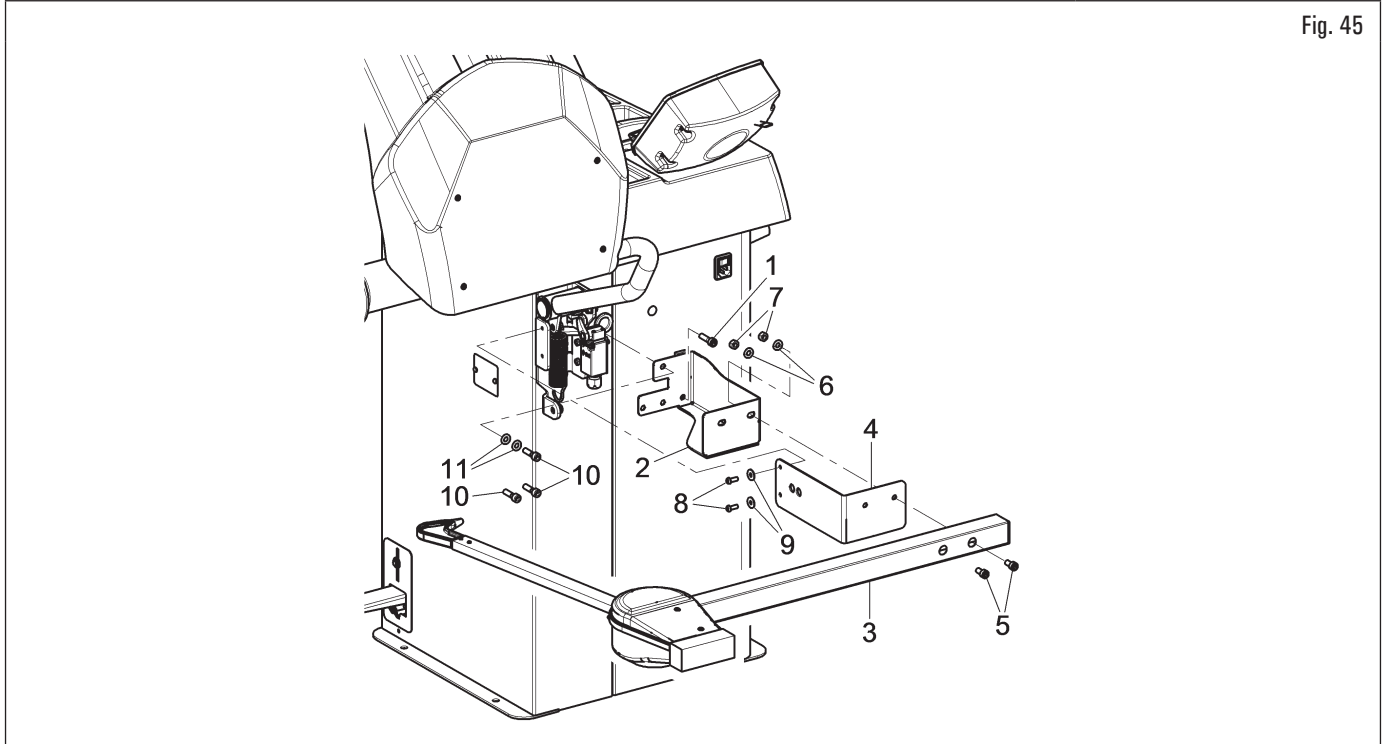
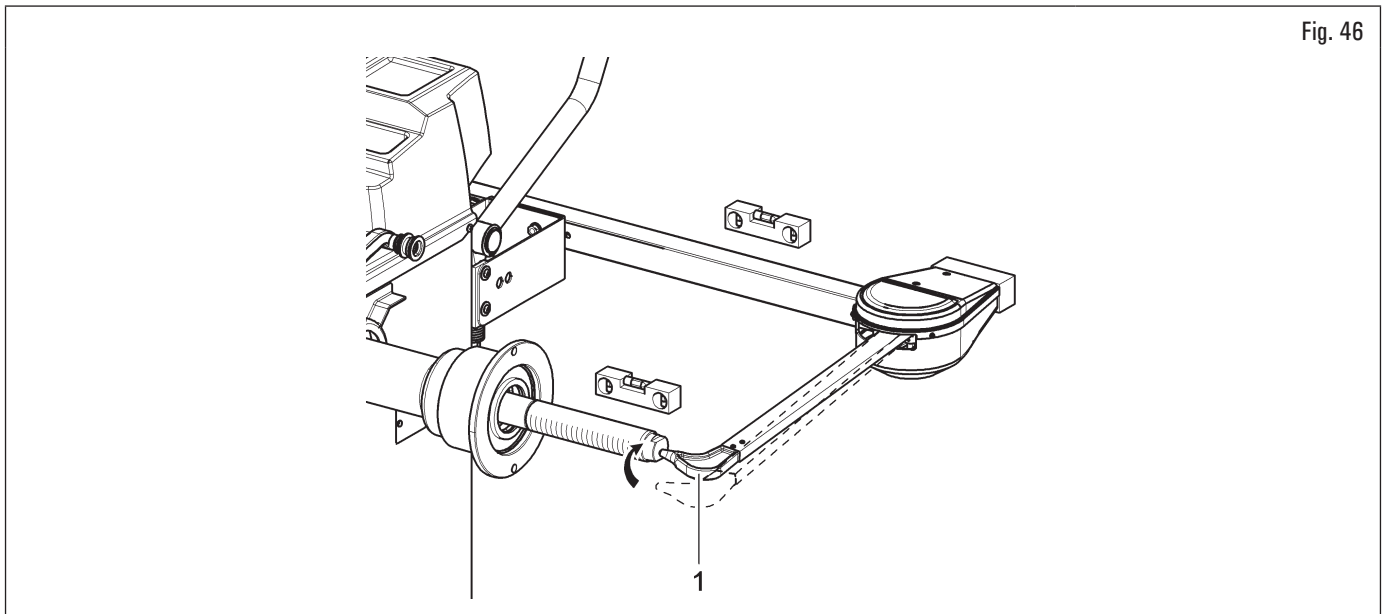
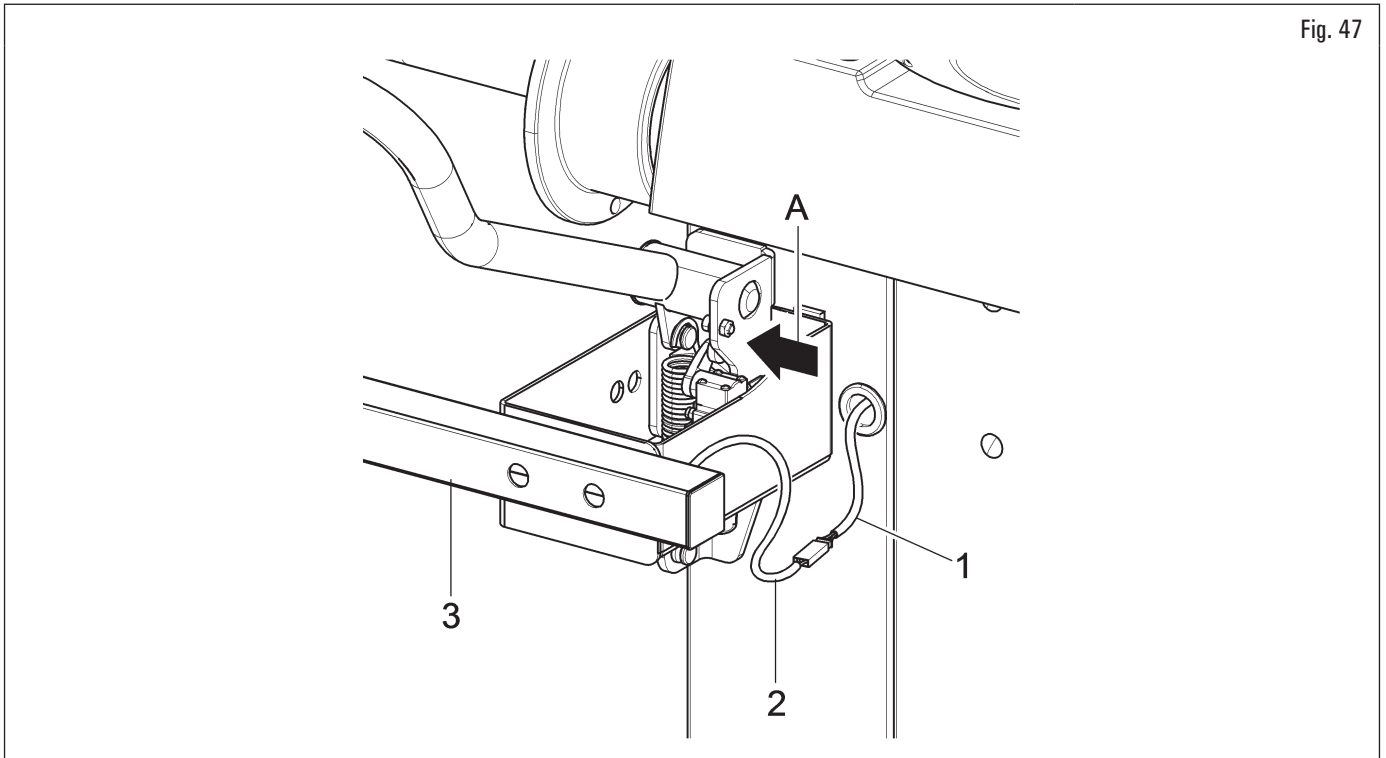

Fig. 45
Fig. 46
Fig. 47
1. Remove the bolts (Fig. 45 ref. 10) and the washers (Fig. 45 ref. 11) from the wheel cover support, being very careful about holding the same support;
2. insert the gauge bracket (Fig. 45 ref. 2) into the lateral slot of the wheel cover support (see Fig. 47 ref. A);
3. fit the fixing bolt (Fig. 45 ref. 1) and bolts (Fig. 45 ref. 10), previously removed, into the gauge bracket (Fig. 45 ref. 2); then screw the assembly to the threaded rivets placed on the rear part of the frame, without using the previously removed washers (Fig. 45 ref. 11).
4. lock the gauge arm (Fig. 45 ref. 3) to the brackets (Fig. 45 ref. 2-4) using the 2 bolts (Fig. 45 ref. 5), the washers (Fig. 45 ref. 6) and the nuts (Fig. 45 ref. 7), so that the shaft and the gauge arm are levelled (see Fig. 46);
5. at the end of the assembly, manually make sure the gauge tip (Fig. 46 ref. 1) is able to touch the chuck head;
6. connect the connector (Fig. 47 ref. 1) of the cable coming from inside the equipment to connector (Fig. 47 ref. 2) of the cable coming from the gauge arm. Fit the section of the cable with the connectors inside the arm (Fig. 47 ref. 3);